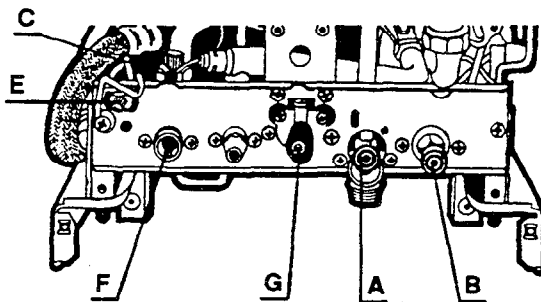

Fig. 34
- 1) Ensure that the isolating valves are open (fig. 34 B and C). **N.B. Valve (C) must be turned anti-clockwise by the knurled nut until it dislocates from the thread and then pulled out horizontally to its extremity (approximately 30 mm (1 1/4 ins)).**
- 4) Vent air separator by loosening screw (fig. 34) (E) and purging until no air is apparent **N.B. : ensure screw E is tightened.**
- 2) Turn the lever on the gas service tap (fig. 34 G) to the left. In the open position.